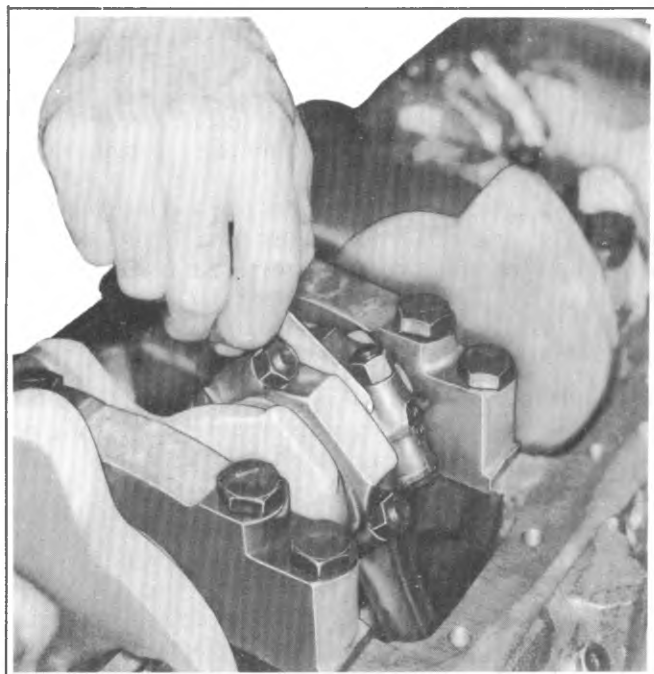

Fig. 6A2-55--Measuring Connecting Rod Side Clearance
9. Measure all connecting rod side clearances (see specifications) between connecting rod caps (fig. 6A2-55).